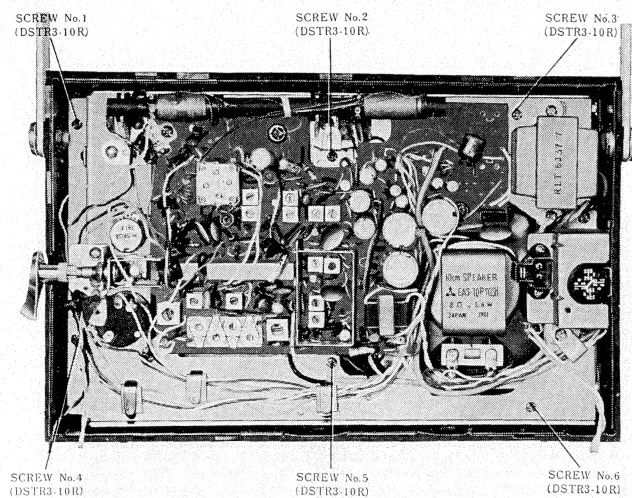

Fig. 1 Top View—Disassembly Points
## To Remove Chassis (Refer to fig. 1)
1. Remove three (3) control knobs from cabinet front.
2. Remove three (3) cabinet back cover mounting screws.
7. Remove six (6) red screws chassis mounting screws Nos. 1~6, as illustrated in fig. 1.
**Notes:** Replace earphone/external speaker or phono jack, as illustrated, in fig. 1.